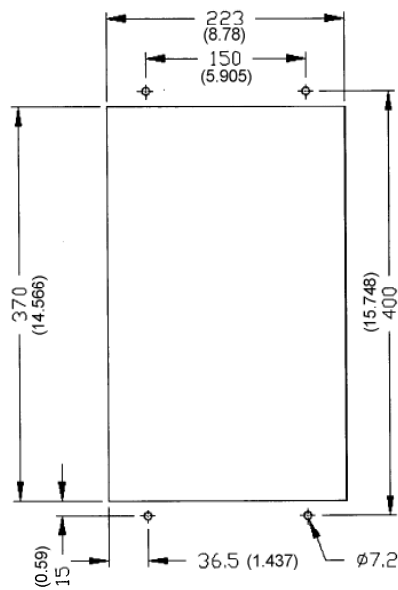

Figure 8.28 - Cutout dimensions in air duct - Dimensions mm (inch)
The DBW-01 and DBW-02 can also be installed with a through surface mounting kit as described in item 8.11. In this case, use the available installation kit, which contains the respective installation supports. Figure 8.28 shows the mounting cutouts.